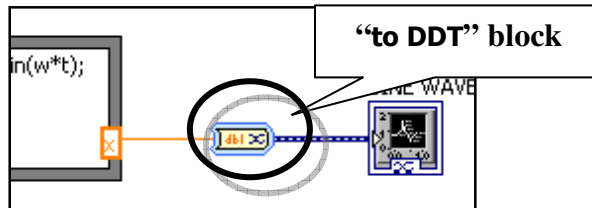

Figure 22. Insertion of a “to DDT” block which converts a single stream of data to dynamic data.
- Add a “Change to Dynamic Data” block. (see Figure 22)
Table 2. Properties used for “to DDT” block in Figure 22.